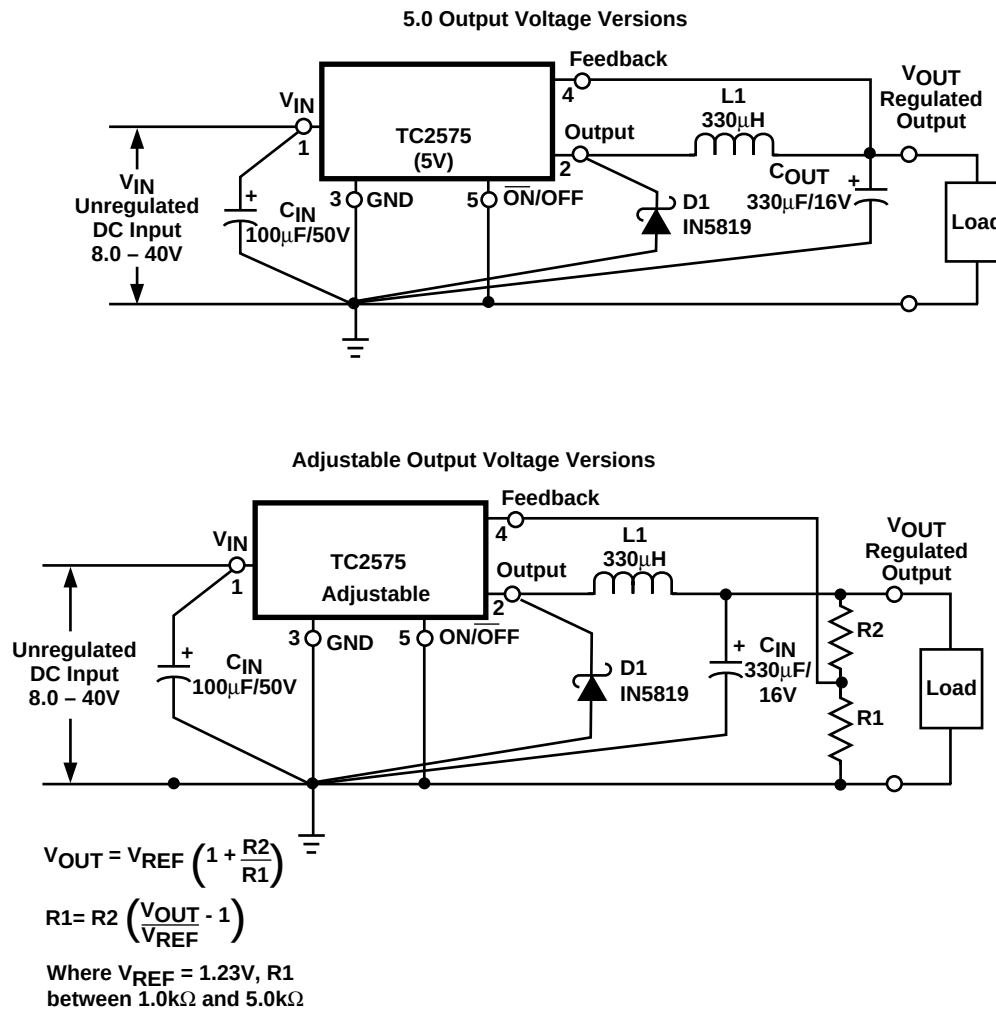

Figure 2. Typical Test Circuit
TC2575-3.3 [(Note 1) Test Circuit Figure 2]
TC2575-5 [(Note 1) Test Circuit Figure 2]
TC2575-12 [(Note 1) Test Circuit Figure 2]
TC2575-Adjustable Version [(Note 1) Test Circuit Figure 2]
- NOTES:** 1. External components such as the catch diode, inductor, input and output capacitors can affect the switching regulator system performance. When the TC2575 is used as shown in the Figure 2 test circuit, the system performance will be as shown in the system parameters section of the Electrical Characteristics.
As in any switching regulator, the layout of the printed circuit board is very important. Rapidly switching currents associated with wiring inductance, stray capacitance and parasitic inductance of the printed circuit board traces can generate voltage transients which can generate electromagnetic interferences (EMI) and affect the desired operation. As indicated in the Figure 2, to minimize inductance and ground loops, the length of the leads indicated by heavy lines should be kept as short as possible.
1. Programming Output Voltage To select the right programming resistor R1 and R2 value (see Figure 2) use the following formula: $V_{OUT} = V_{REF} \left(1.0 + \frac{R2}{R1} \right) \text{ where } V_{REF} = 1.23V$ Resistor R1 can be between 1.0k Ω and 5.0k Ω . (For best temperature coefficient and stability with time, use 1% metal film resistors). $R2 = R1 \left(\frac{V_{OUT}}{V_{REF}} - 1 \right)$	1. Programming Output Voltage (selecting R1 and R2) Select R1 and R2 $V_{OUT} = 1.23 \left(1.0 + \frac{R2}{R1} \right) \text{ Select } R1 = 1.8k\Omega$ $R2 = R1 \left(\frac{V_{OUT}}{V_{REF}} - 1.0 \right) = 1.08k \left(\frac{8.0V}{1.23V} - 1 \right)$ $R1 = 9.91k\Omega$, choose a 9.88k Ω metal film resistor.